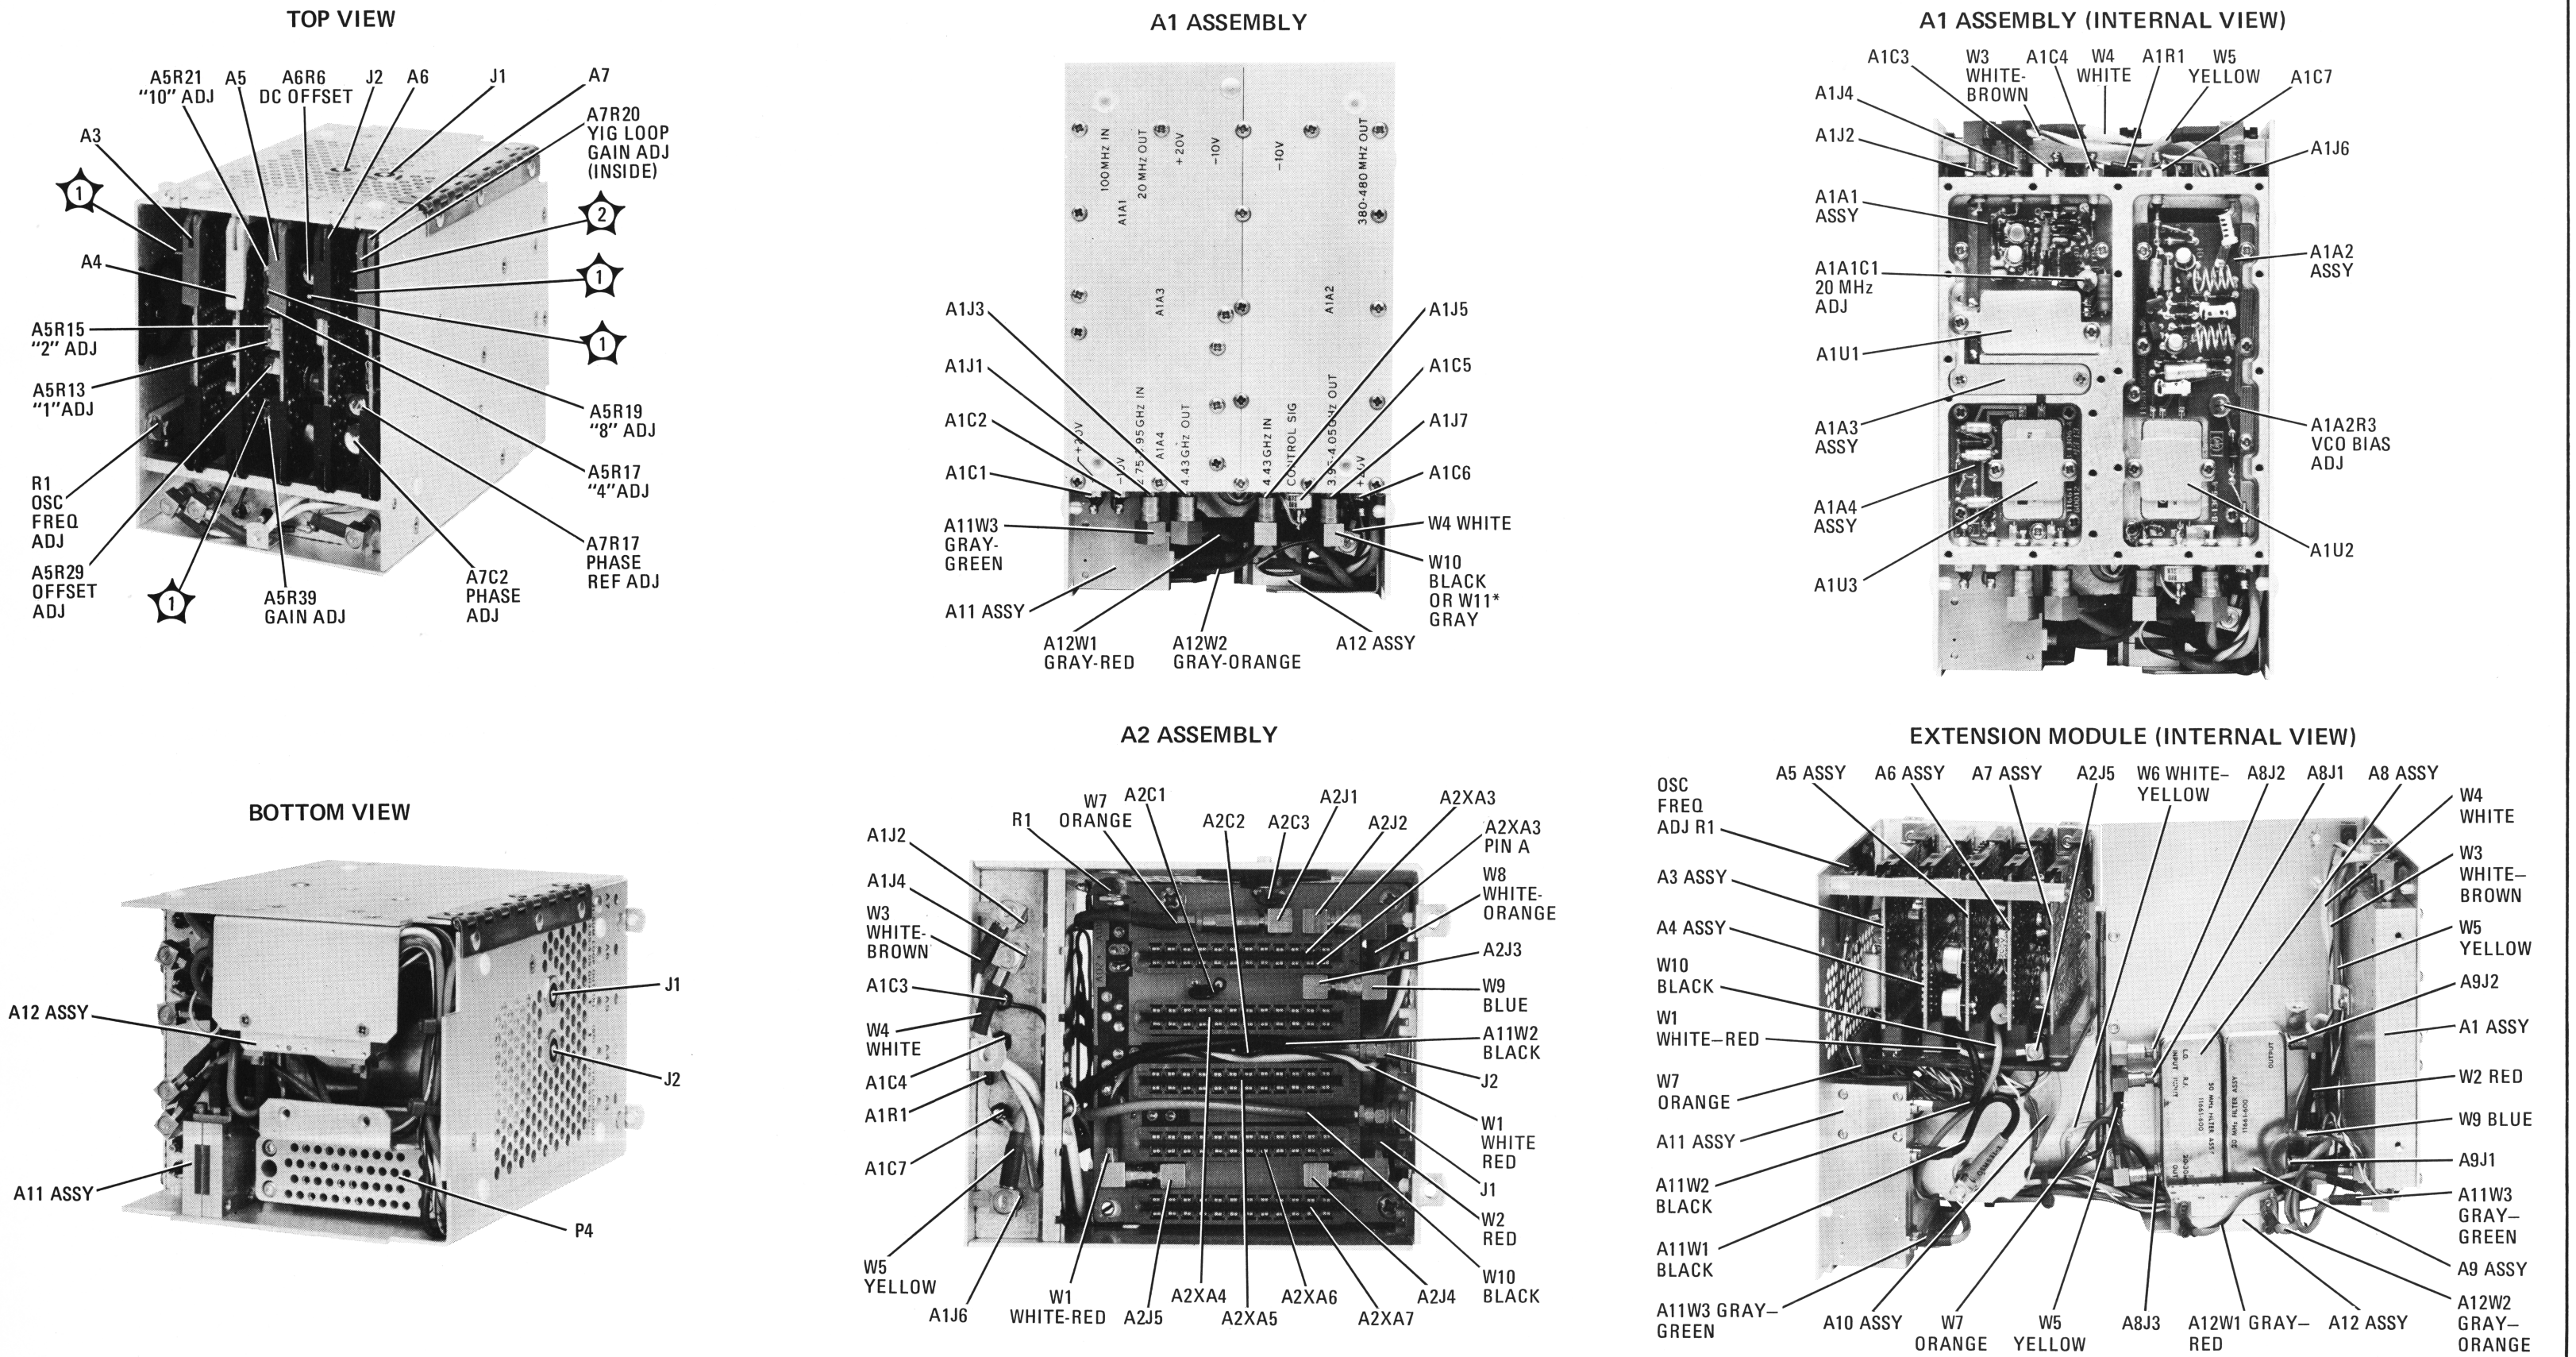

Figure 8-17. Assemblies, Chassis Mounted Parts, Adjustment Locations, and Test Point Locations 8-23/8-24
b. To open the Frequency Extension Module as shown in Figure 8-17 under Extension Module Internal View, remove the two screws on the side of the case marked "REMOVE FOR SERVICE" (shown in Figure 8-16).